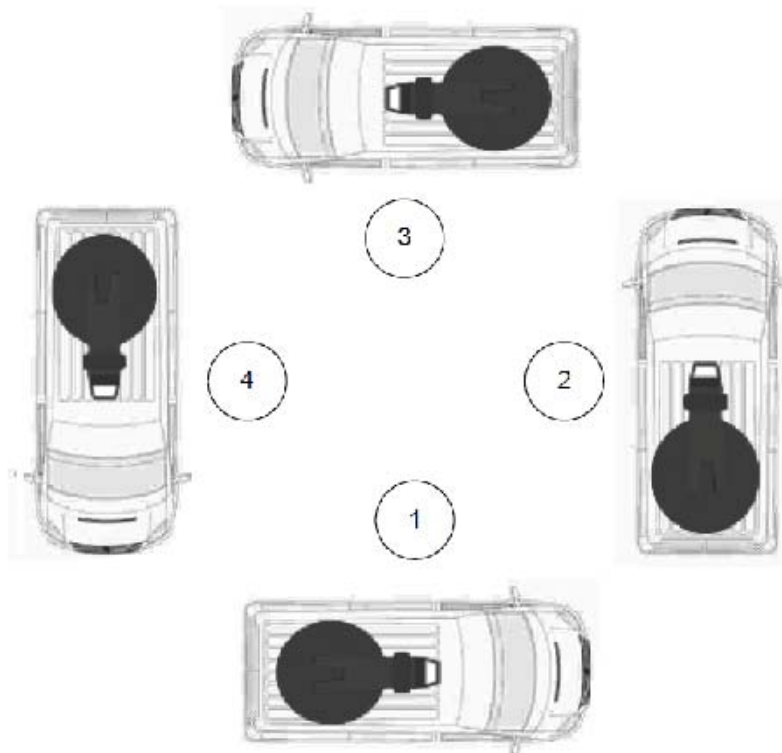

Figure 6-6: Compass calibration, vehicle positions
10. When the first part is completed, move the vehicle so that it is parked approximately on a 90 degrees angle relative to the previous position, see Figure 6-6.